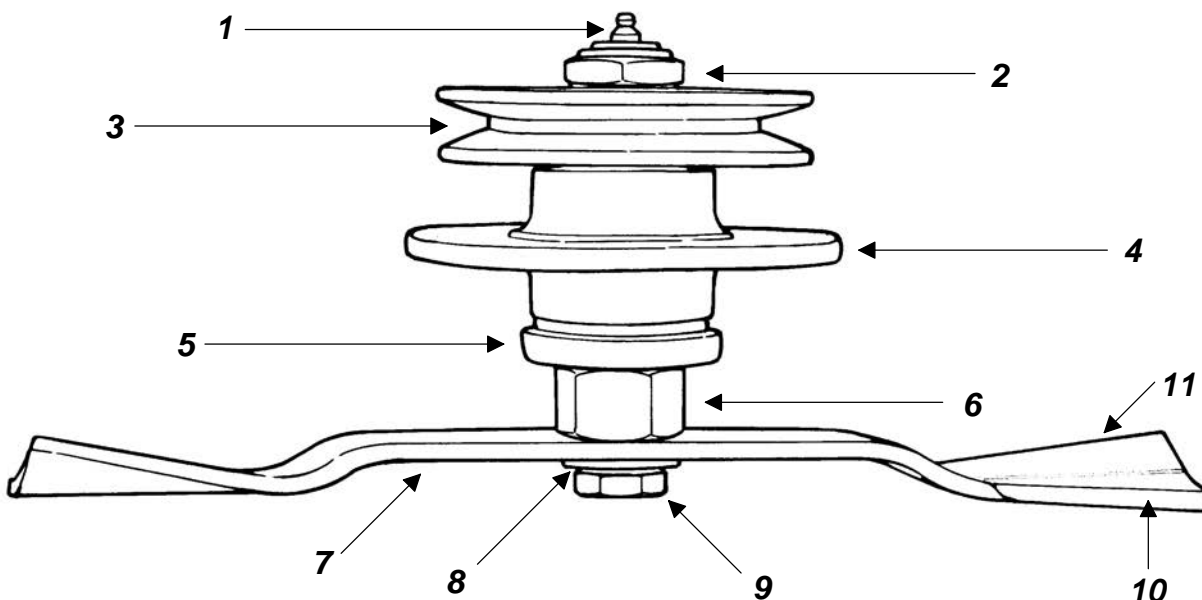

Fig. 13 - Spindle assembly.
1. The blade turns in a **counter clockwise** direction when viewed from the bottom of the deck. The cutting edge must be towards the direction of rotation. The lift wing of the blades is closest to the deck and the cutting edge away from it (**see fig. 13**).
2. Install the cup washer (**see fig. 13**) over the blade bolt and secure the blade in place as described above.